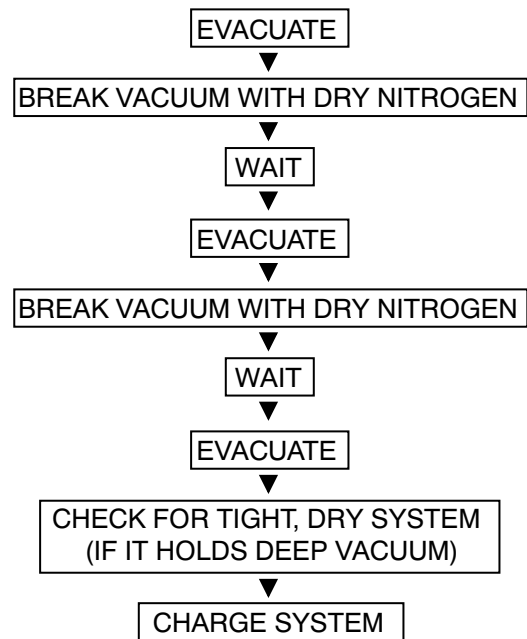

Fig. 32 – Triple Evacuation Method
The triple evacuation method should be used when vacuum pump is only capable of pumping down to 28 in. of mercury vacuum and system does not contain any liquid water. Refer to Fig. 32 and proceed as follows:
5. Repeat this procedure as indicated in Fig. 32. System will then be free of any contaminants and water vapor.